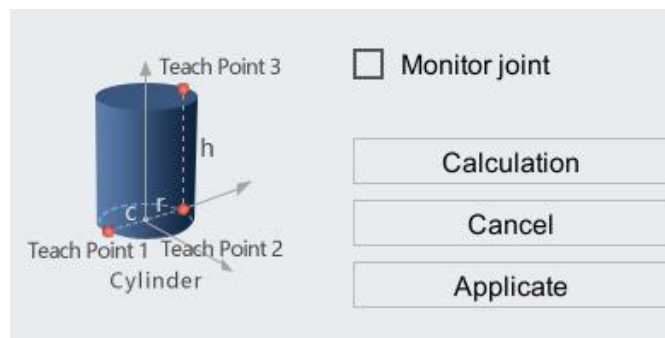

Figure 6-53 Contents of model of cylinder working zone
If you want to uniquely determine the working zone of the cylinder, you need to calculate the teach points 1, 2 on the bottom circle of the cylinder and the height (h) of the cylinder. As shown in Figure 6-53, the distance between the teach points 1, 2 is the diameter of the bottom circle (2r), and the center point of the teach points 1, 2 is the center of the bottom circle (c). The working zone of the cylinder can be determined through teaching method and manual input method.
Step4. After the teaching of three points is completed, click <Calculate> button shown in Figure 6-53 to automatically calculate the coordinates of the bottom circle center (c), the radius of the bottom circle (r), and the height of the cylinder (h). Click <Applicate> button to complete the zone setting.